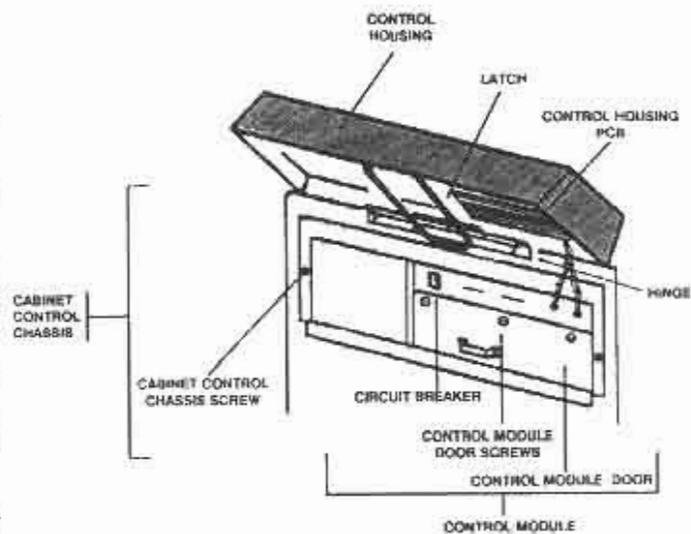
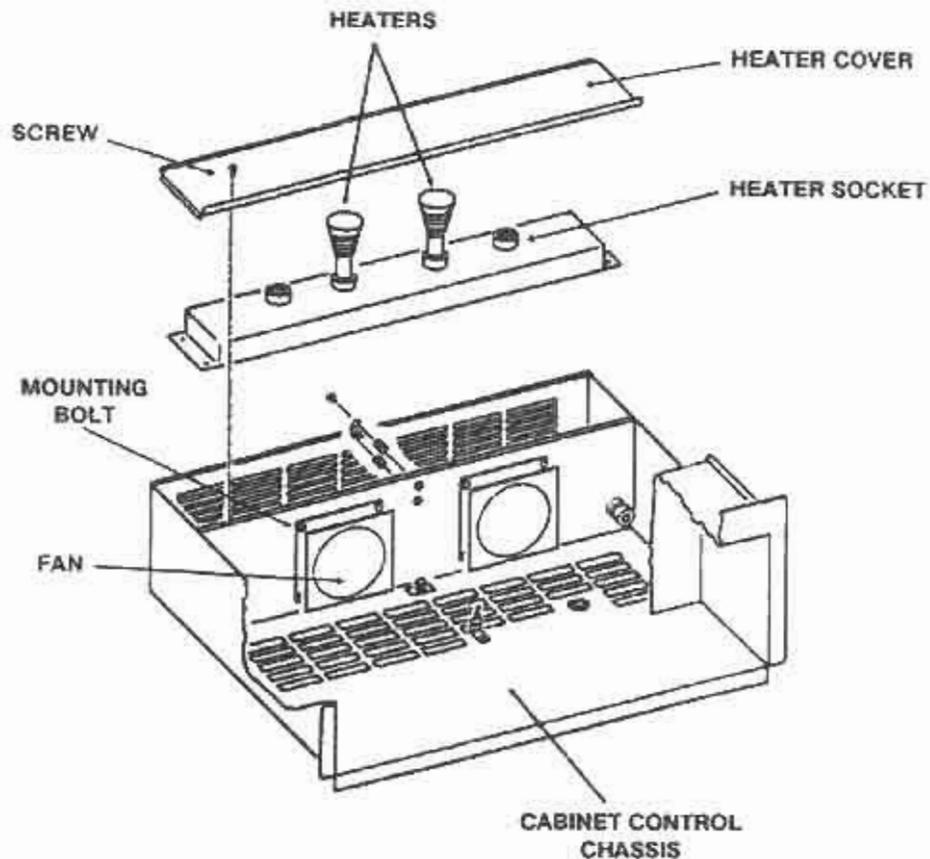

Figure 3-23. Cabinet control chassis (fans).
Figure 3-24. Fans.
- (5) Reconnect the electrical power to the unit.
- (6) Test the warming cabinet and verify all calibrations as specified in paragraphs 3-16 through 3-18.
**3-23. Fans (fig 3-23 and fig 3-24).**
- (1) Disconnect the electrical power to the unit.
- (2) Access the cabinet control chassis by completing the following actions: